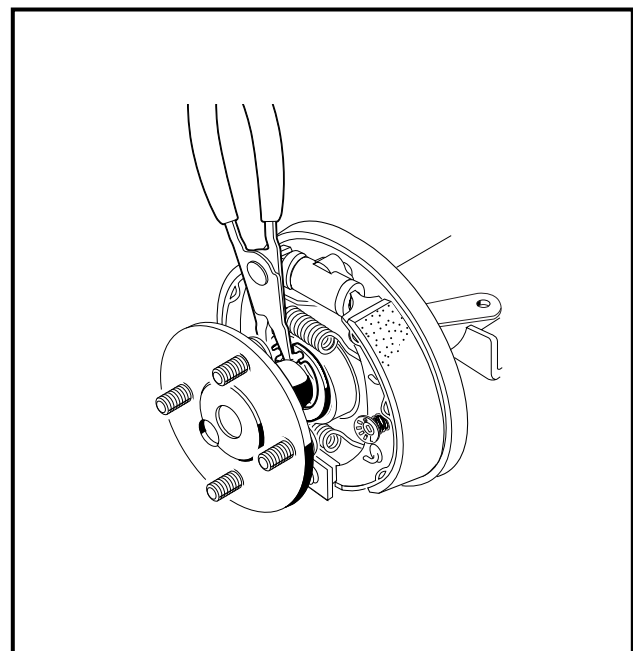

Figure 16-92 Retaining Ring
- 12.5. Install the right (passenger side) axle shaft (83) in the right axle tube (91) (**Figure 16-4, Page 16-4**). Using 90° angle (.90 tip) snap ring pliers, install the retaining ring as shown (**Figure 16-92, Page 16-38**).
- 12.7. Install the left (driver side) axle shaft (82) in the left axle tube (90) (**Figure 16-4, Page 16-4**). Using 90° angle (.090 tip) snap ring pliers, install the retaining ring as shown (**Figure 16-92, Page 16-38**).